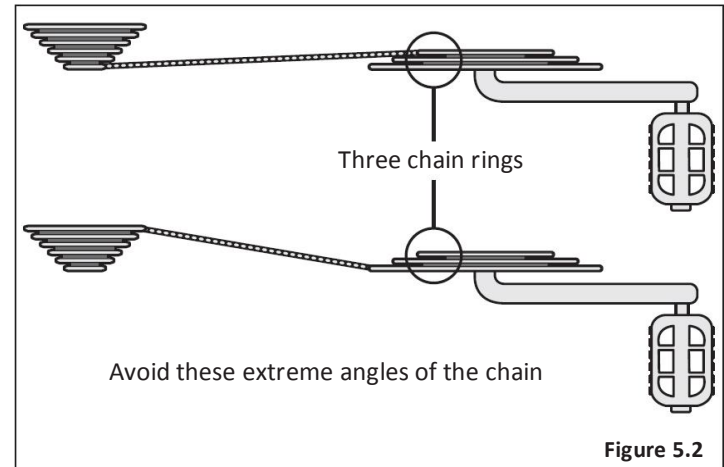

Figure 5.2
- For bicycles with 3 front chain rings; avoid “Cross Chaining”, Which is the position when the chain is in the smallest cog in the rear combined with the inner or smallest chain ring in the front, or the largest cog in the rear and the outer or largest chain ring in the front. These gear positions put the chain at the most extreme angle and can cause premature wear to the drivetrain. Bicycles with 3 front chain rings have enough gear “overlaps” that these gears are not needed. **Figure 5.2**